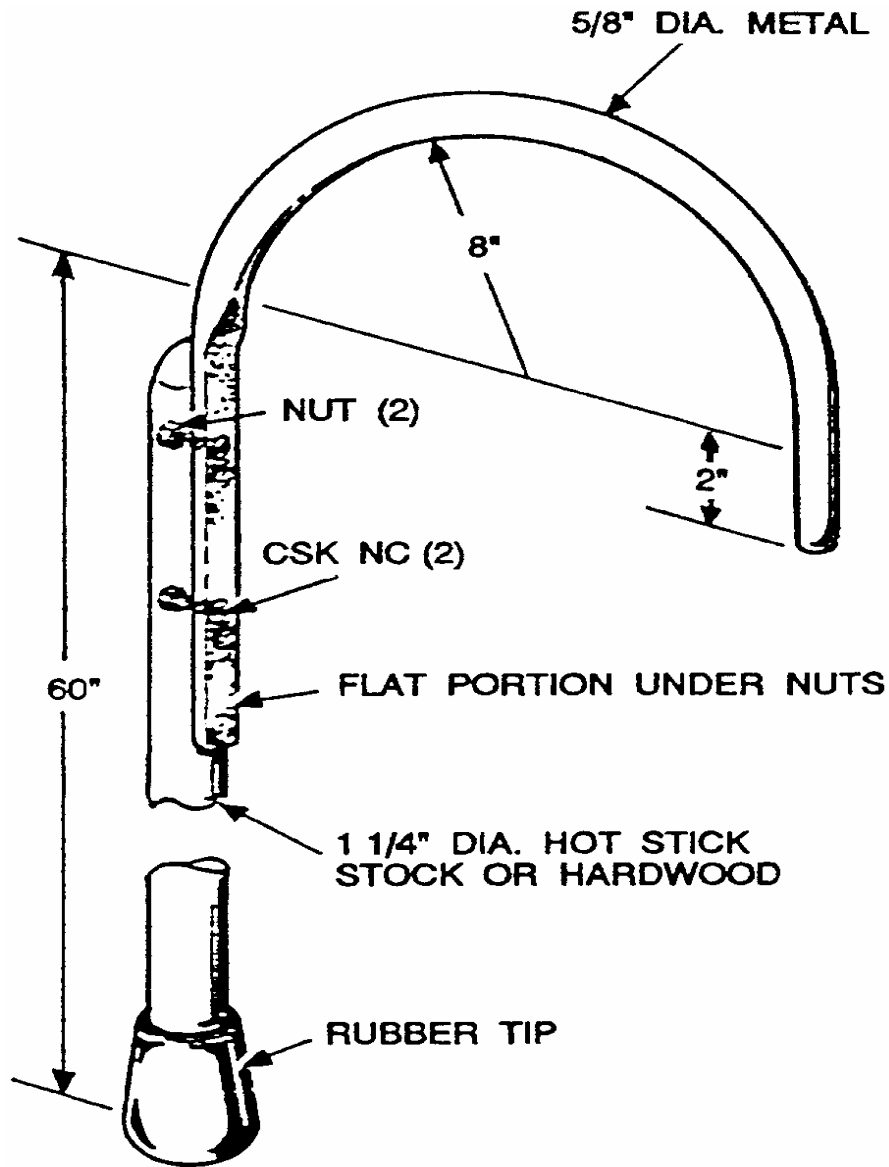

Figure T-3. Safety Hook; Fabrication Diagram
- (g) Safety hook; fabricated locally (Figure T-3).